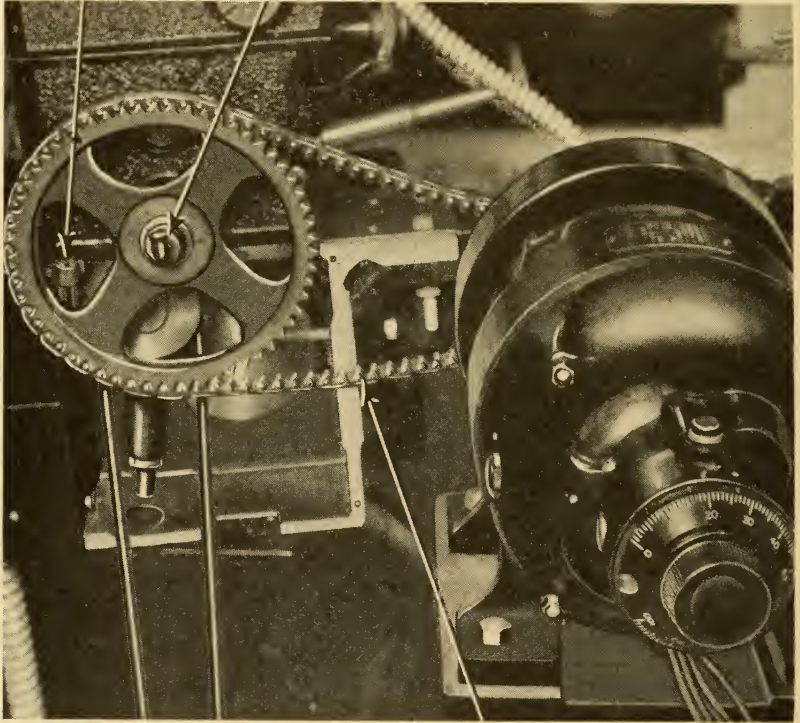
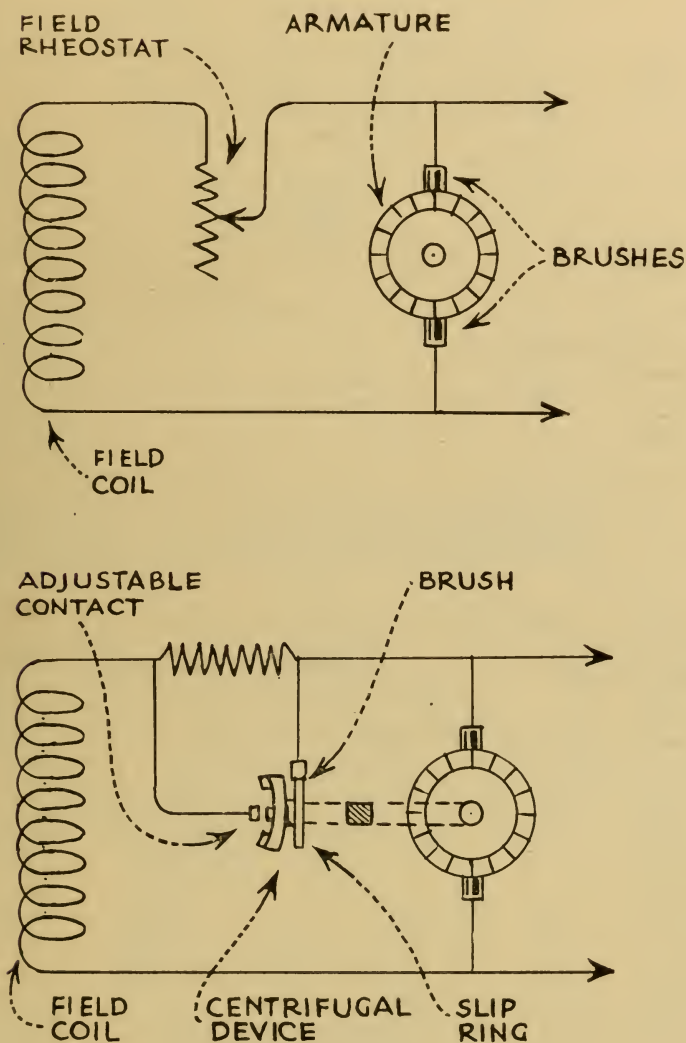

FIG. 145.—Drive using centrifugal speed control.
FIG. 146.—Electrical diagram of centrifugal speed control system.
(9) Figure 145 is a picture of a d. c. motor equipped with centrifugal speed control. Figure 146 is a schematic diagram showing the working of this apparatus, and Figure 147 is a detailed drawing of its mechanical construction.
The operation of this system is explained very clearly by Figure 146. The mechanical action is best studied in Figure 147. The centrifugal force of the motor's rotation (the same force that causes a revolving wheel to throw mud) drives the flyweights of the centrifugal device outward in opposition to the tension of a retaining spring, and compels the center on which they are pivoted
to touch the adjustable contact immediately in front of it. Closing this contact (Figure 146) short-circuits a
(10) It is high speed in the motor of Figure 146 that forces the flyweights outward and closes the centrifugal contact, thereby short-circuiting the field resistance and increasing the field current. Thus, excessive motor speed compels the motor to slow down. Conversely, when the motor speed declines, the centrifugal contact opens, cutting in the field resistance, decreasing the field current and causing the motor to speed up. The action of this contact is a continuous, chattering make-and-break. The rotating parts of the motor are too heavy to permit the motor speed to fluctuate as rapidly as the centrifugal contact opens and closes. In consequence, the motor maintains a steady, average speed, at the rate required by the setting of the adjustable contact. The radio-type dial by which this contact is adjusted is prominent in the foreground of Figure 145.